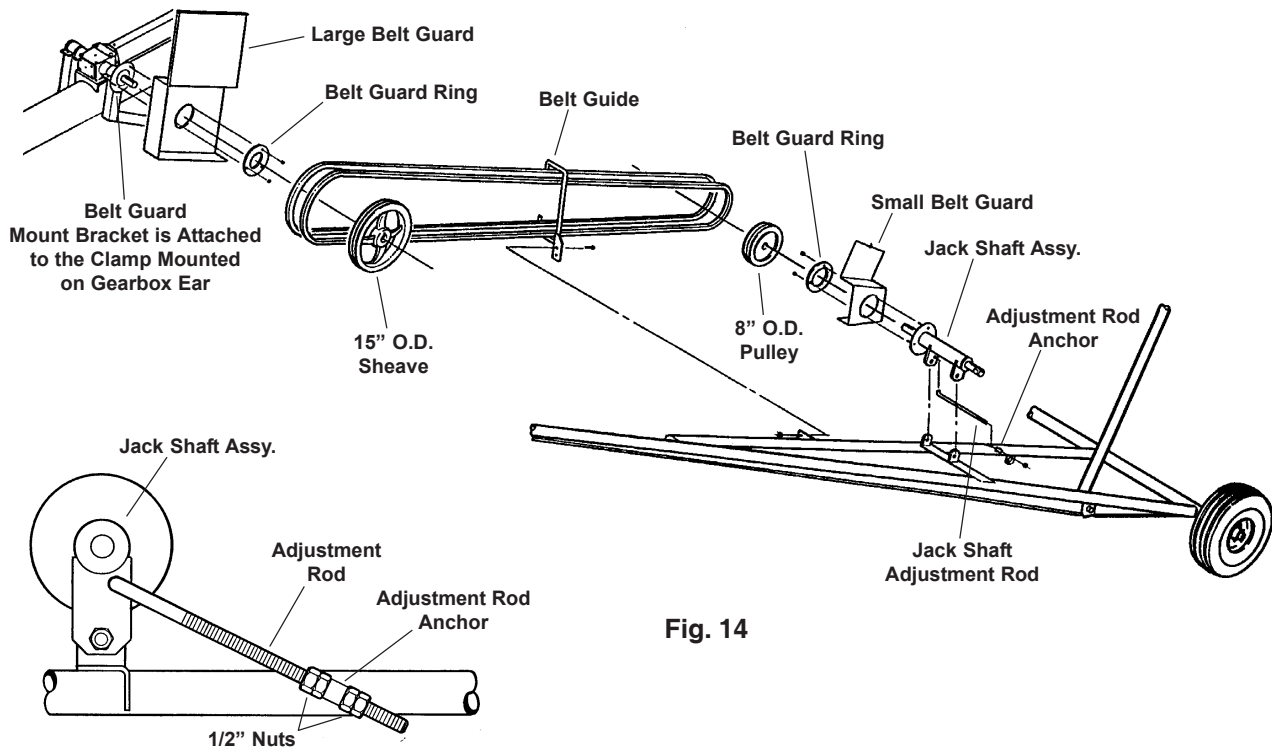

Fig. 14
1. Install the jackshaft to the mounting tabs on the lower portion of the undercarriage frame. Secure using two (2) 1/2 x 1 1/4" bolts and nylon locknuts. **Note: the jackshaft assembly must be able to pivot, tighten the bolts only enough to still allow the jackshaft to pivot freely.**
2. Thread two 1/2" non-lock nuts onto the jackshaft adjustment rod. Insert the threaded end of the adjustment rod through the anchor tube welded to the side of the undercarriage frame, and insert the hook end of the adjustment rod into the hole on back of the jackshaft mounting tab (See Fig. 14).
7. Locate the belt guide from the kit. Position the guide over the belts and attach it to the mounting tab on the undercarriage frame as shown in Fig. 14. Secure using two (2) 5/16 x 1" bolts and nylon locknuts (make sure to position the belts so they are captured inside the belt guide).